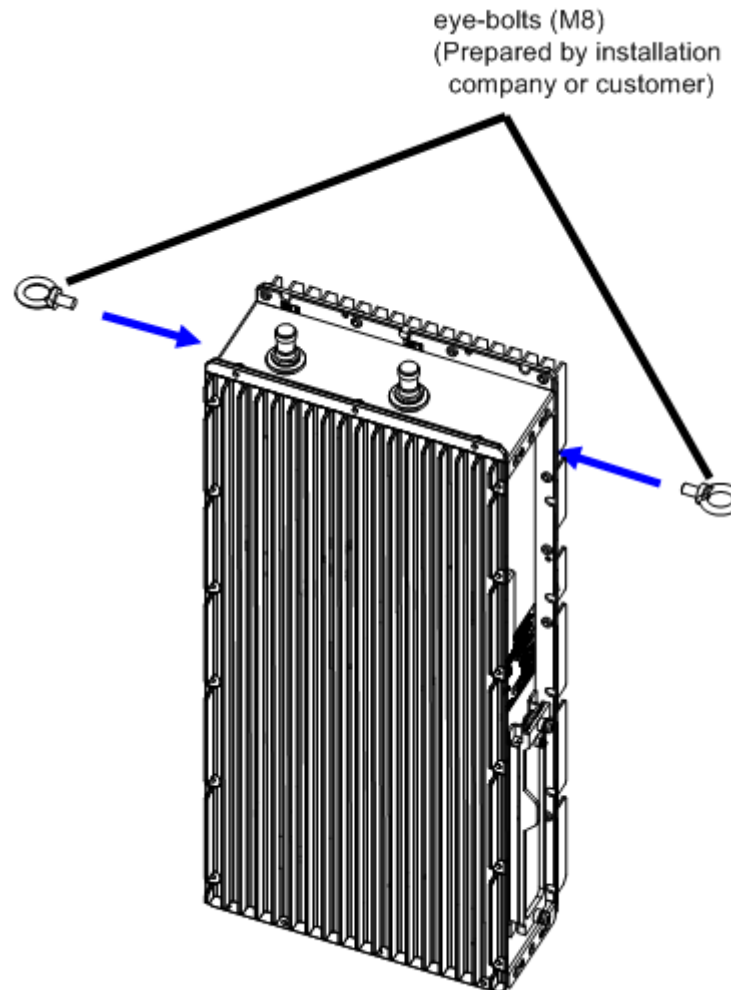

Figure 11 Attaching eye-bolts
- 1 Insert eye-bolts into the screw holes on the sides of the equipment as shown in Figure 11.